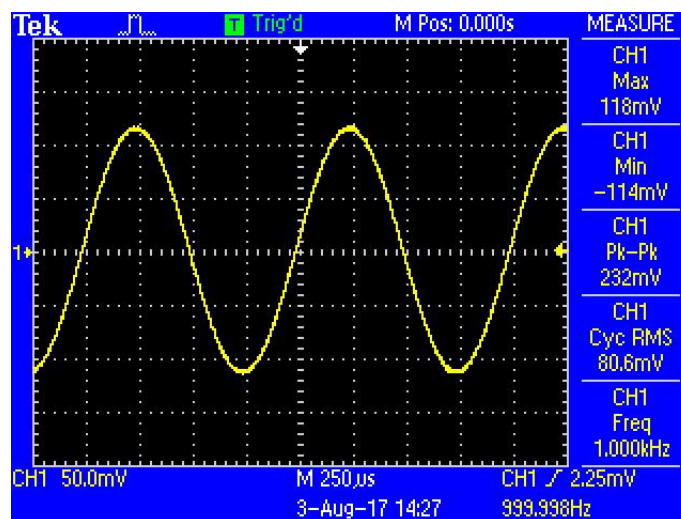

Fig.87 Measured Signal Parameters Diagram
3. Turn on the function signal generator and set “Function: Sine”, “Amplitude: 50mVrms”, “Frequency: 1kHz”, “Output Impedance: 50 Ω ”, as is shown in Fig.87.